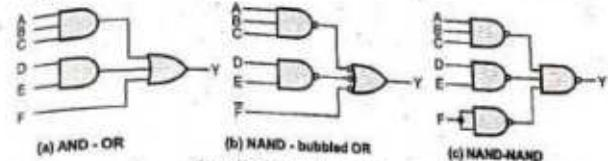

Fig. 4.7.22 NAND-NAND implementation
- This Boolean function can be implemented using AND-OR logic, as shown in Fig. 4.7.22 (a).
- Fig. 4.7.22 (b) shows the AND gates are replaced by NAND gates and the OR gate is replaced by a bubbled OR gate. The implementation shown in Fig. 4.7.22 (b) is equivalent to implementation shown in Fig. 4.7.22 (a), because two bubbles on the same line represent double inversion (complementation) which is equivalent to having no bubble on the line.
- In Fig. 4.7.22 (c), the output NAND gate is redrawn with the conventional symbol. The NAND gate with same inputs gives complemented result, therefore  $\bar{F}$  is replaced by NAND gate with F input to its both inputs. Thus all the three implementations of Boolean function are equivalent.